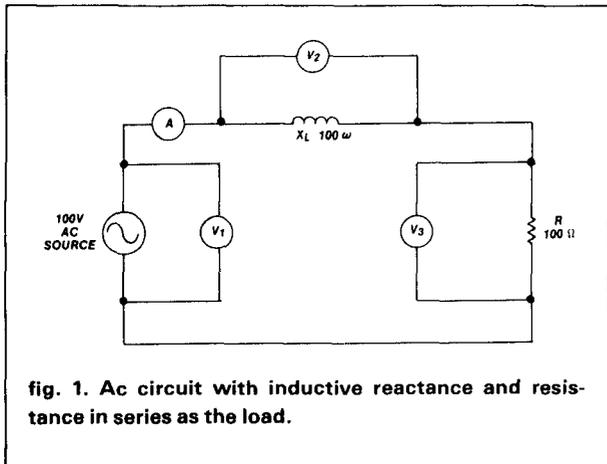
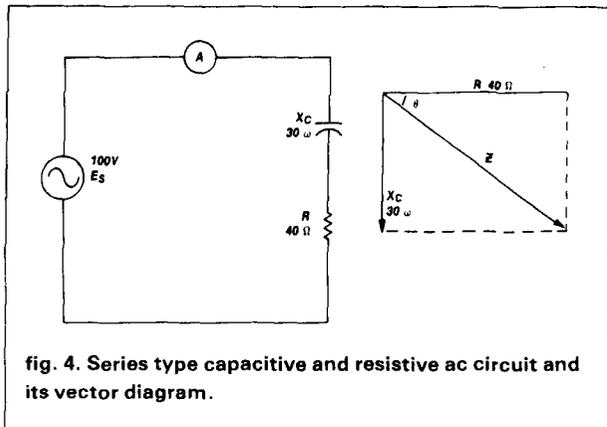

fig. 1. Ac circuit with inductive reactance and resistance in series as the load.
fig. 4. Series type capacitive and resistive ac circuit and its vector diagram.
Let's see what we can find out about the ac circuit shown in fig. 1. An ac generator or alternator (the circle with a one-cycle sine wave in it) feeds a circuit composed of X_L in series with an R . Since this is a series circuit, the same current flows in all parts of the circuit, so only one ammeter is needed. The three voltmeters measure all possible voltages in the circuit.
In fig. 4, a series ac circuit is shown using a capacitor in place of the inductor of fig. 1. If the capacitor has very little capacitance, only a small current can be driven back and forth through the resistor with a given ac voltage. If the capacitor is larger it can be charged and discharged with more electrons and the ac charging current that would now flow through the resistor will increase. Thus a capacitor must have both an ac conducting and an opposing effect, or *reactance*. Capacitive reactance, X_C , opposes ac somewhat like resistance does, but it is not the same as resistance.
What would be the phase angle, the impedance, the current, and the voltage drops in the fig. 4 circuit? We can apply exactly the same computing ideas to a capacitively reactive circuit as we did with the inductively reactive circuit before. The phase angle (the number of degrees by which the current leads the voltage) may be found by $\tan \theta = X/R$, or in this case $\tan \theta = 30/40$, or 0.750. From the table, the angle θ is 36.87 degrees.
There is an interesting thing about computing power in ac circuits. If we have a 2-amp current flowing in the fig. 4 circuit and a source voltage of $E_s = 100$ volts, then from the power formula $P = EI$ we would expect to have $100(2)$, or 200 watts being dissipated. But a wattmeter in this circuit would show only 160 watts! The 200 value from a voltmeter and an ammeter is called the reactive power, or the volt-amperes (VA) of the circuit. The true power, that amount of energy actually lost by the circuit, is
The ratio of true power (P) to volt-amperes (VA) is known as the power factor of the circuit. In our circuit of fig. 4, the power factor (pf) = P/VA , or $160/200$, or 0.8000. You can express a pf of 0.8000 as a pf of 80 percent by moving the decimal point over two places and adding the percent sign. You will also find that the power factor is always equal to the cosine of the phase angle ($\cos \theta = pf$). For our circuit, the pf is 0.8000, the cosine of θ is 0.8000, and from the table, $\theta = 36.87$ degrees as determined previously.